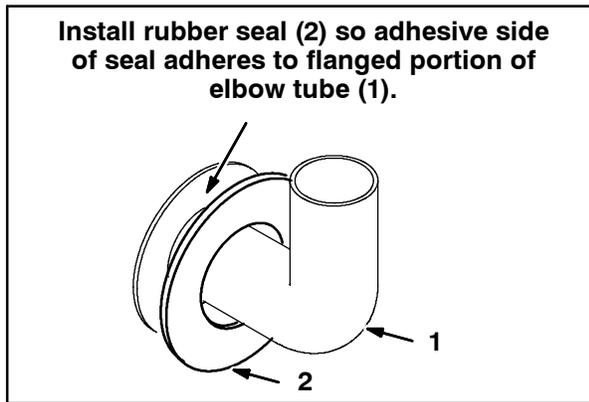

FIG. 3
- Orient the rubber seal (2) so the adhesive side of the seal touches the flanged outer rim of the elbow tube (1) and install the seal onto the flanged edge of the tube. Refer to Fig. 3.